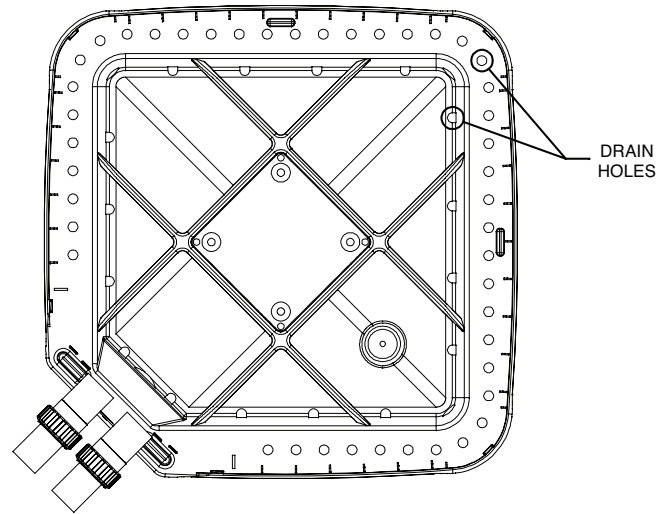

Fig. 9: Condensate Drain Hole Locations
1. Routinely check to be sure the condensation drain holes in the base of the unit are not plugged with dirt or debris. See Fig. 9 for condensate drain hole locations.